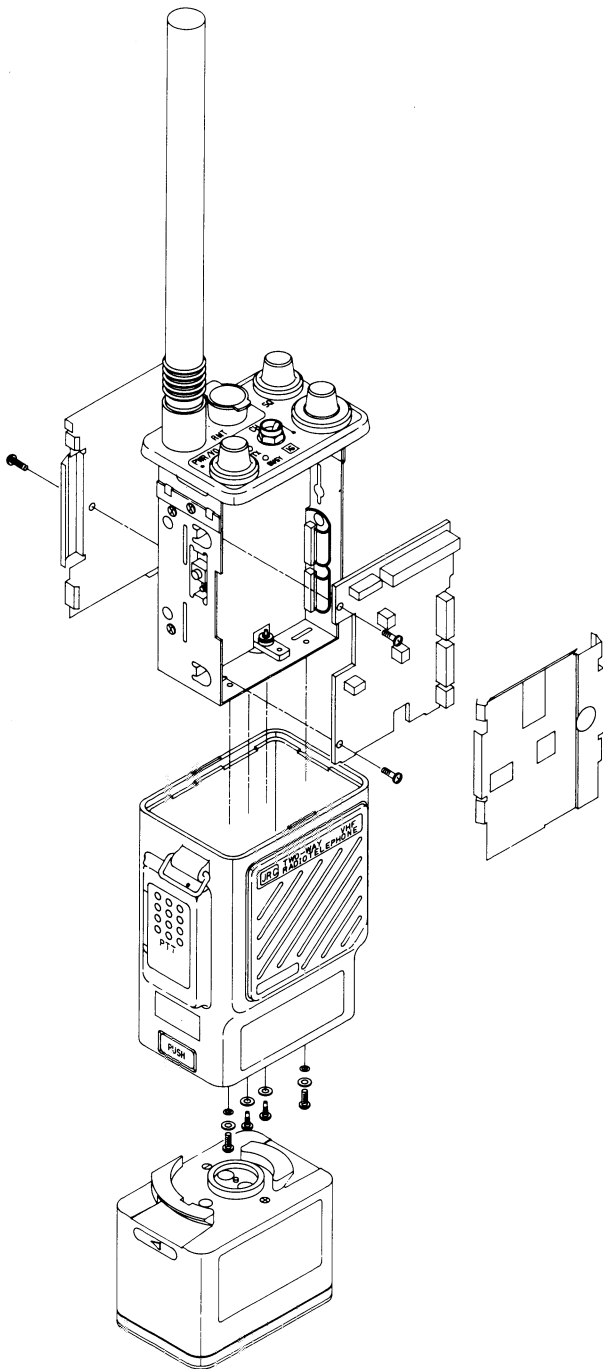

Figure 6-1 Assembly Drawing of the Radiotelephone
- (1) Exclusive wrench is needed to remove the antenna from the radiotelephone. If the removal is forced by any other means, the antenna or the radiotelephone will be damaged. Ask a nearest JRC dealer or branch if the removal is necessary.
- (2) Before making repairs or asking for repairs, check fundamental matters such as operating procedures and battery conditions.
- (3) Unless having suitable measuring instruments or qualification to make repair, never disassemble this equipment.
- (4) When disassembling this equipment, refer to Figure 6-1.